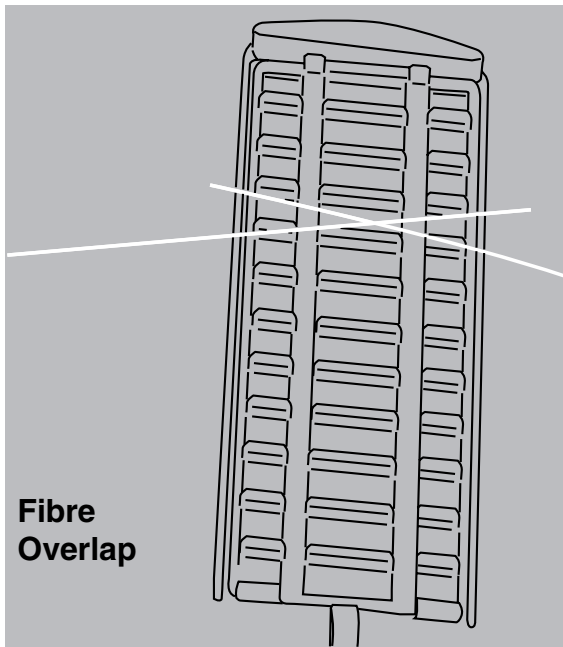

FIGURE 14
14. By colour code, select the individual fibres from the “express” and “drop buffer tubes. These should be spliced and routed around the SLIDE-N-LOCK splice tray in opposite directions. Allow up to 1 meter (39”) of fibre to be stored each side of the splice and cut an overlap of approximately 60 mm (2.3”) at the point of splicing. (Figure 14)